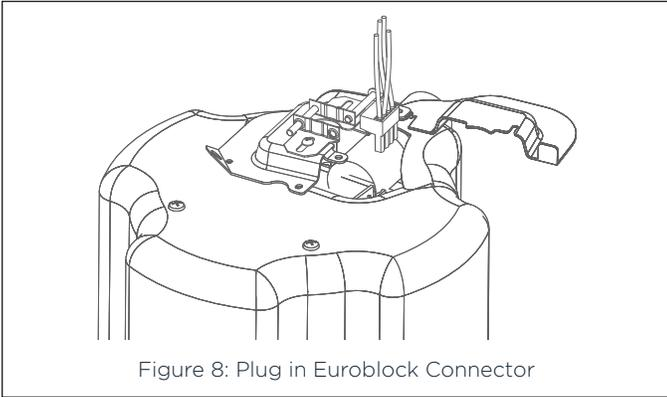

Figure 8: Plug in Euroblock Connector
- Once all the wires are terminated. Plug the green Euroblock connector into the back of the speaker (see Figure 8).